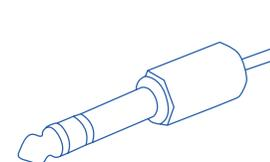

Fig. 3
**Balanced (Stereo)** This stereo connection can carry two channels of audio and is often used with recording equipment, home hi-fi systems, headphones etc. Balanced connectors are useful over longer distances, as they are less susceptible to interference from other equipment. (Fig. 3)